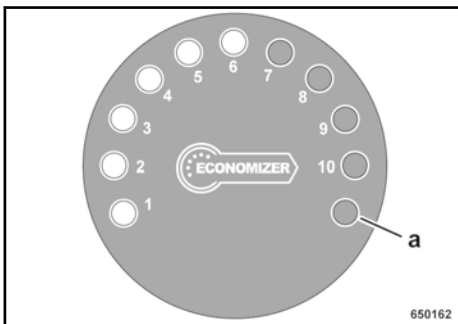

Fig. 75
The increasing number of yellow LEDs (1) - (10) ↗ Fig. 75 lighting up indicates the increase in compaction.